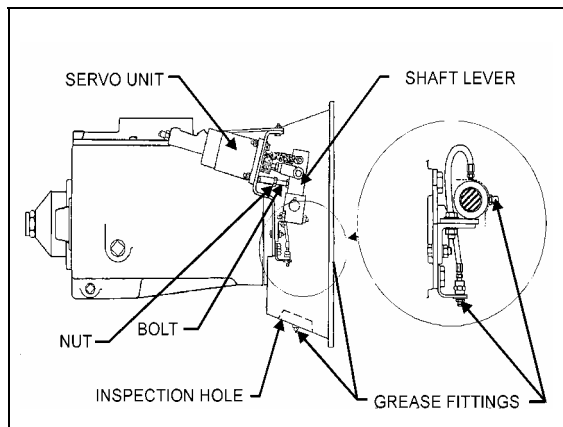

FIGURE 4: CLUTCH INSTALLATION 02001
- FIGURE 4: CLUTCH INSTALLATION.....02-4
1. Remove inspection cover at bottom of clutch housing (Fig. 4).
2. If clearance is incorrect, adjust bolt until it touches the shaft lever and locks in position with nut (Fig. 4).
1. Locate the bleed valve mounted at the end of servo unit. Remove dust cap (Figs. 4 and 6).
The clutch components should be lubricated every 6,250 miles (10 000 km) or twice a year, whichever comes first (refer to Fig. 4 to identify the clutch component grease fittings). The clutch release bearing (one grease fitting) and the clutch control cross shaft (three grease fittings, two on the operating cylinder side and one on the other side) should be lubricated with a good quality lithium-based soap or equivalent E.P. grease meeting N.L.G.I. grades 1 or 2.